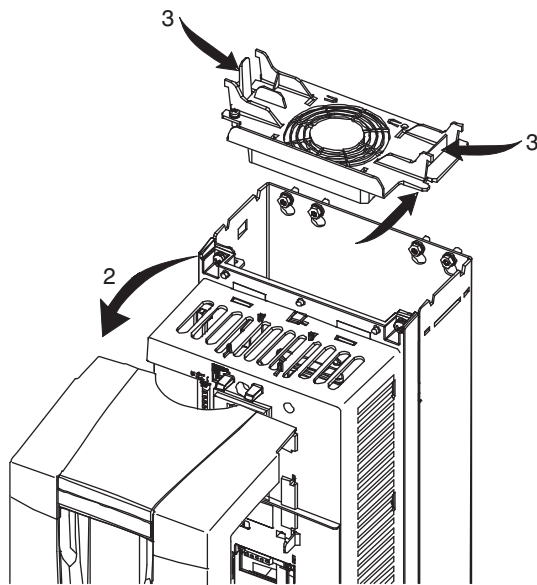

Fig. 36 — Remove Top Cover on ACH550 VFD
3. Press together the retaining clips on the top cover and lift (see Fig. 36).